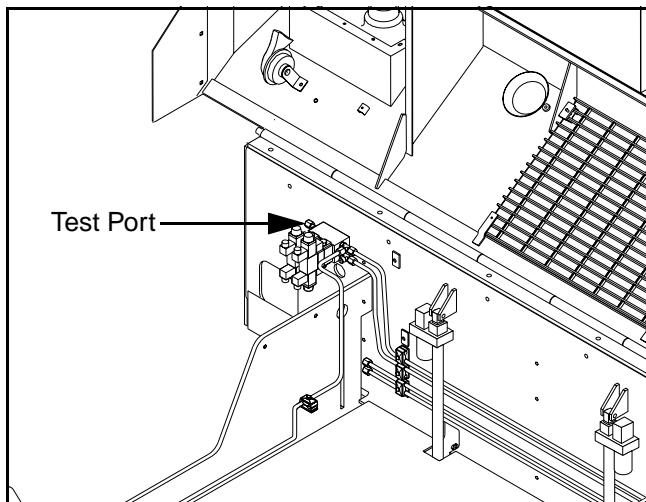

Figure 5 - 17 Auxiliary Pressure Test Port
- 1) Install a pressure gauge (3000 psi) at the auxiliary system test port. (Figure 5 - 17)